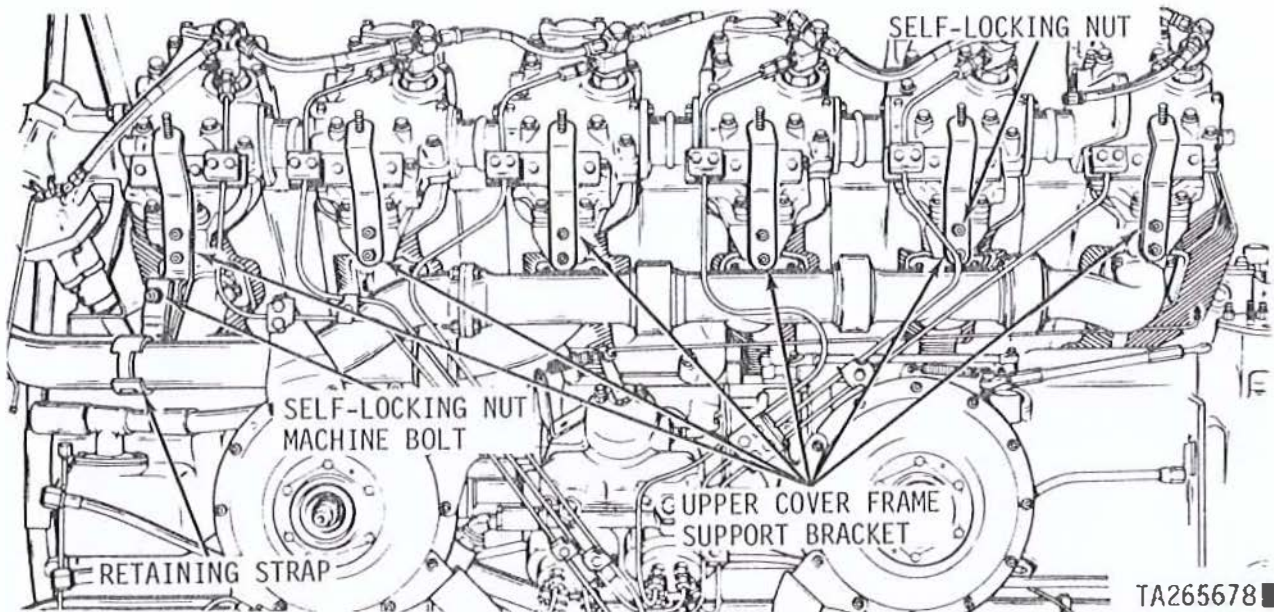

Figure 3-20. Removing or installing right upper cover frame support brackets.
a. *Upper Cover Frame Support Brackets.* Remove self-locking nut and machine bolt (fig. 3-20) and remove exhaust elbow retaining strap. Remove twelve self-locking nuts (fig. 3-20) attaching upper cover frame support brackets to cylinders